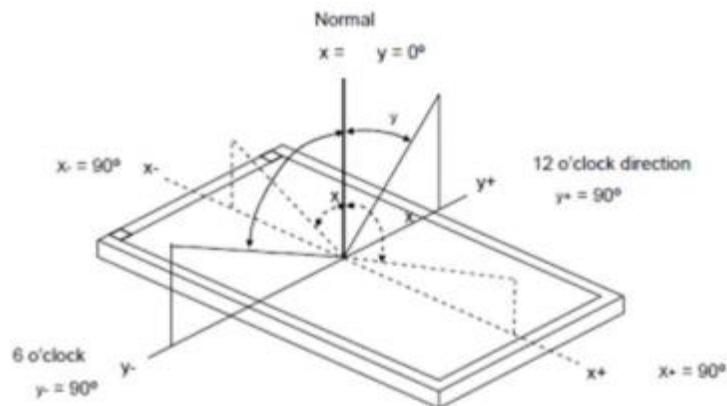

Figure 6. Definition of Viewing angle
(3) Definition of Viewing angle:
As Note (1) the static contrast ratio definition, the viewing angles are defined at the angle that the contrast ratio is larger than 10 at four directions relative to the perpendicular direction of the panel's module (two vertical angles: up θ_{y+} and down θ_{y-} ; and two horizontal angles: right θ_{x+} and left θ_{x-}). The standard setup of measurement is shown in Figure 6